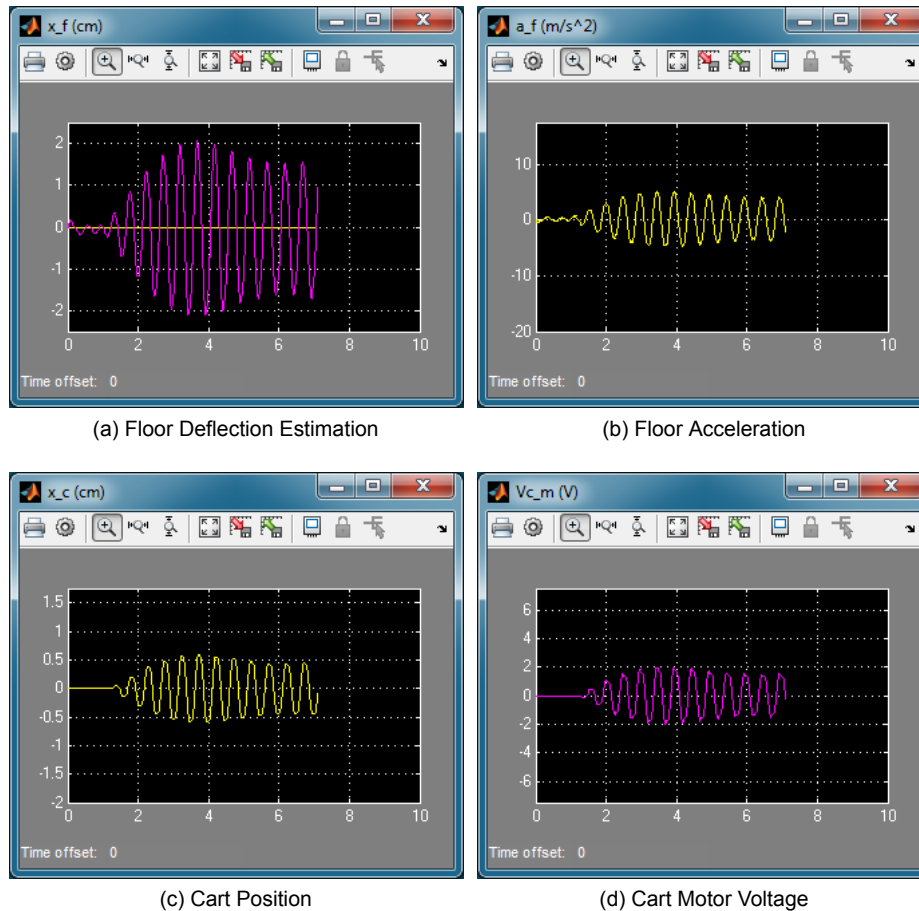

Figure 3.11: AMD scopes when running sine wave and without active mass damping
9. The response when the sine wave amplitude is set to 0.5 cm and the frequency is slowly increased to 2 Hz is depicted in Figure 3.11. The  $x_f$  (cm) scope displays the estimated AMD-1 structure deflection, the  $x_c$  (cm) scope shows the measured cart position, and the  $V_{t_c}$  (V) scope display the applied AMD-1 cart motor voltage from the control. The floor acceleration is shown in  $a_f$  (g) as well. Notice how the estimated building deflection (in red) goes up to around  $\pm 1.5$  cm.